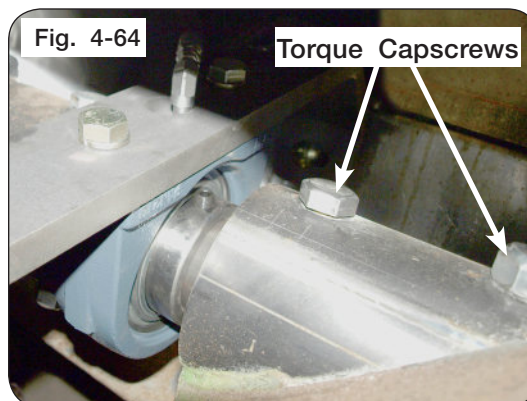

Fig. 4-64
28. Torque auger capscrews to 200 ft.-lbs. (Figure 4-64)